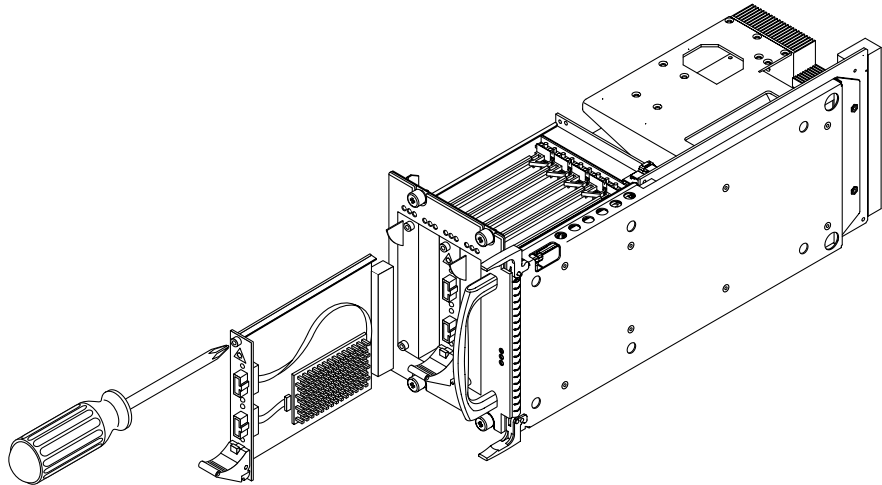

FIGURE 2-7 Replacing a Sun Fire Link Optical Module in a Sun Fire Link Assembly for Sun Fire 6800 Systems
4. **Hold the optical module by the two side edges or the front panel and slide the module into the slot in between the two guides. (FIGURE 2-7).**